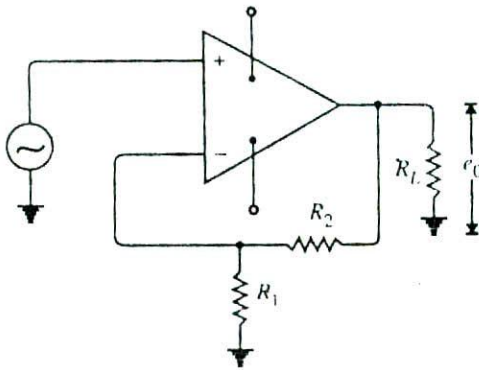

Fig. 15.28
6. Fig. 15.28 shows the negative feedback amplifier. If the gain of the amplifier without feedback is 10^5 and $R_1 = 100\ \Omega$, $R_2 = 100\ \text{k}\Omega$, find (i) feedback fraction (ii) gain with feedback. [(i) 0.001 (ii) 1000]